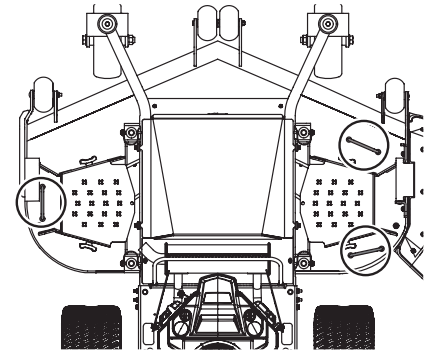
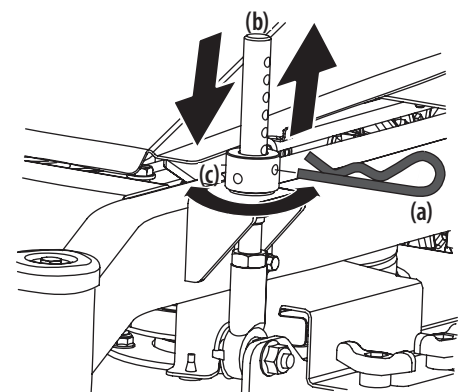

Figure 5
Figure 6
1. Securely grasp one of the three handles on the deck (see Figure 5 for location) and lift slightly to remove the cotter pin (a). See Figure 6.
2. Raise or lower the deck on the deck adjustment pin (b) and in combination with the deck lift adjustment collar (c), find the desired height. See Figure 6.
3. Insert the cotter pin (a) back into the deck adjustment pin (b) at the desired position. See Figure 6.